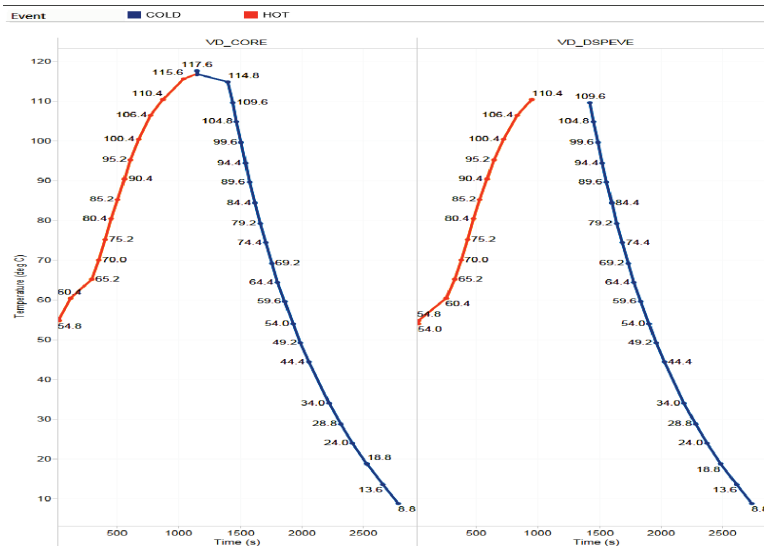

Figure 22. Thermal Tracking by Changing Thermal Thresholds in Temperature ISR
- A thermal tracking system can also be created with this mechanism for modifying the temperature thresholds in the temperature ISR. Figure 22 provides an example of this thermal tracking where the device was heated and then cooled in a thermal chamber, from 40°C to 110°C then back down to 0°C.
The hot and cold thresholds were modified by 5°C on every thermal event. As the ambient temperature changed, the host processor was interrupted at the appropriate temperatures. The current temperature was recorded at every thermal event, the plot is shown in Figure 22. Note the junction temperature is higher than the ambient temperature by approximately 10°C. This difference increases as the ambient temperature increases due to higher leakage power dissipation and thermal device heat generation at higher temperatures.
- Depending on the use case operation, different regions of the device heat up slightly differently than others. Note in Figure 22 that the 500 s Time the VD_CORE is at approximately 85°C and VD_DSPEVE is at approximately 80°C. The difference in temperature is almost always $< \pm 5\text{-}10^\circ\text{C}$. You can choose to base the thermal management on only one temperature sensor in TDA2xx/2ex to minimize software overheads.